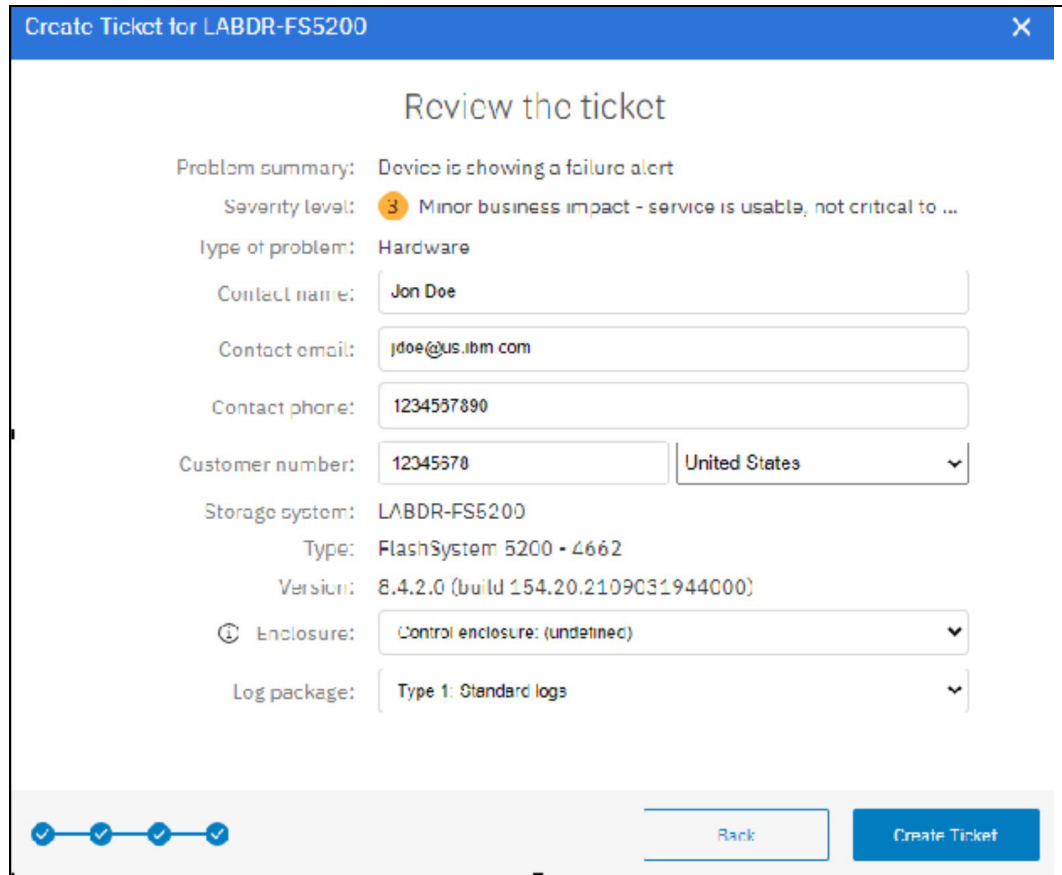

Figure 11-20 Final summary before ticket creation
- The final summary window (see Figure 11-20) includes the option to add logs to the ticket. When completed, click **Create Ticket** to create the support ticket and send it to IBM. The ticket number is created by the IBM Support system and returned to your IBM Storage Insights instance.